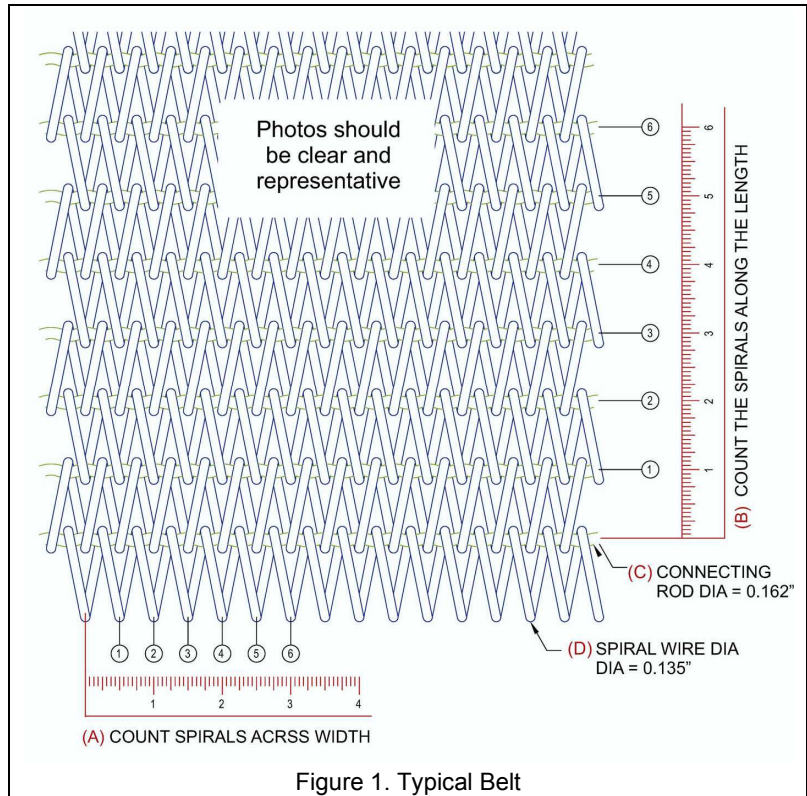

Figure 1. Typical Belt
3. Belt Weave Specification (A – B – C – D). Ref Figure 1.
Example: 24-12-8/10 (fig 1).